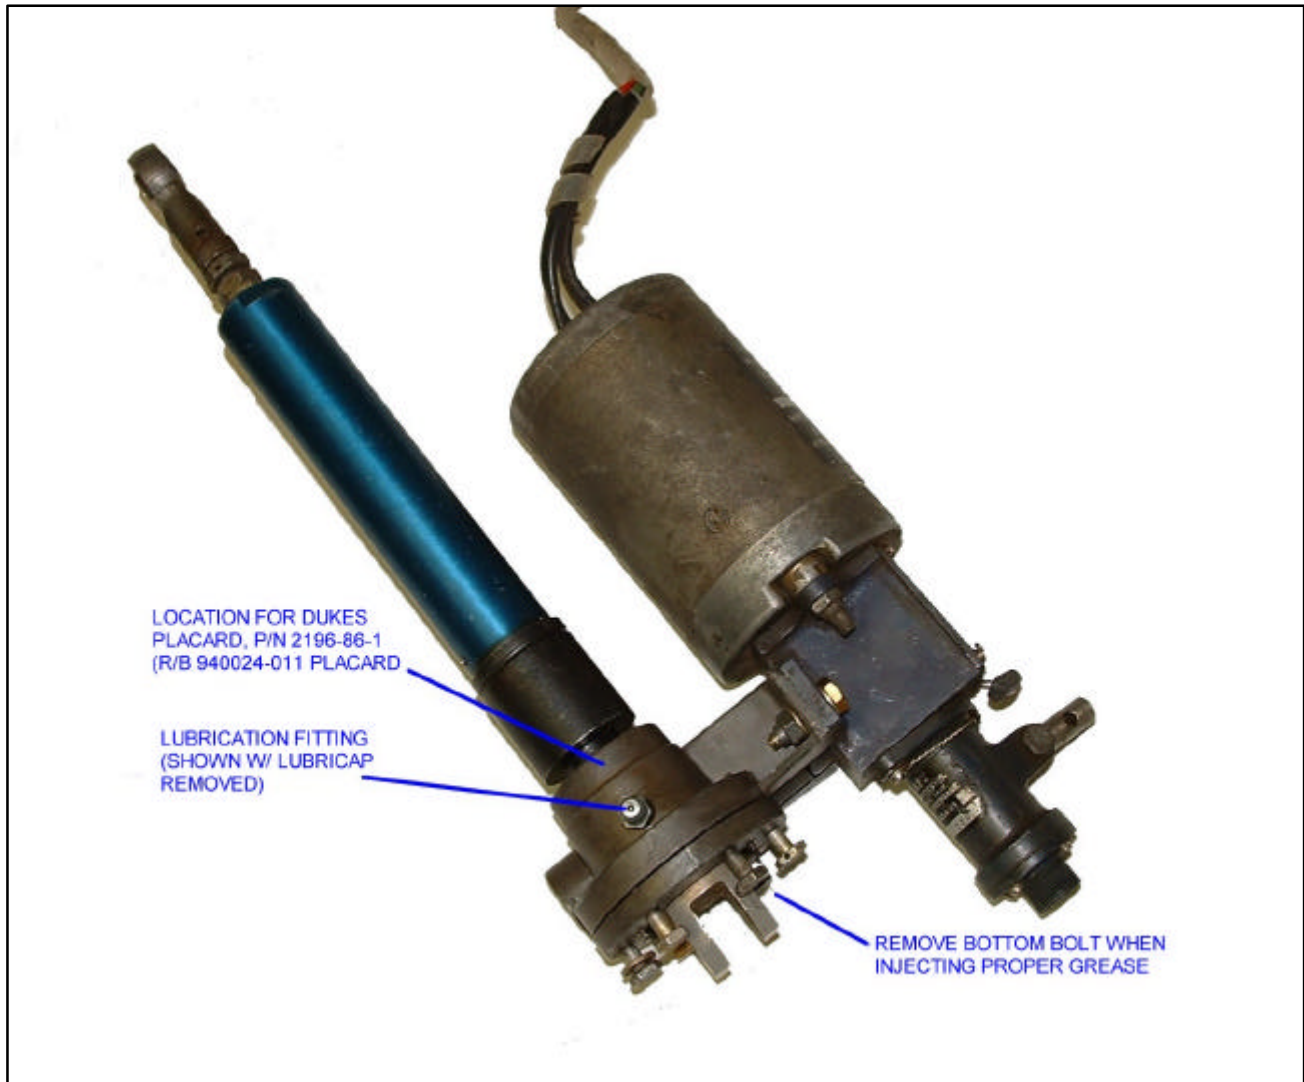

FIGURE 2
1. Remove belly plate P/N 310124 for access to actuator and remove top end cap bolt and lubricap (see Fig. 2).